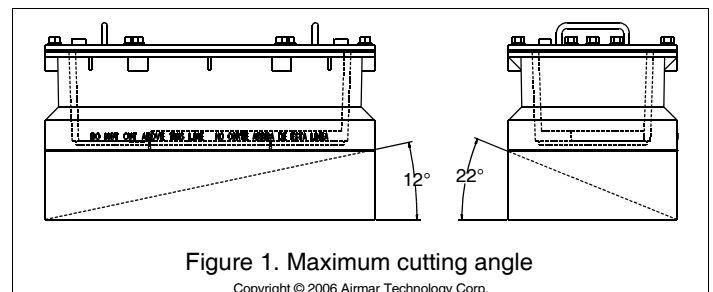

Figure 1. Maximum cutting angle
- Accommodates a deadrise angle up to: (see Figure 1)